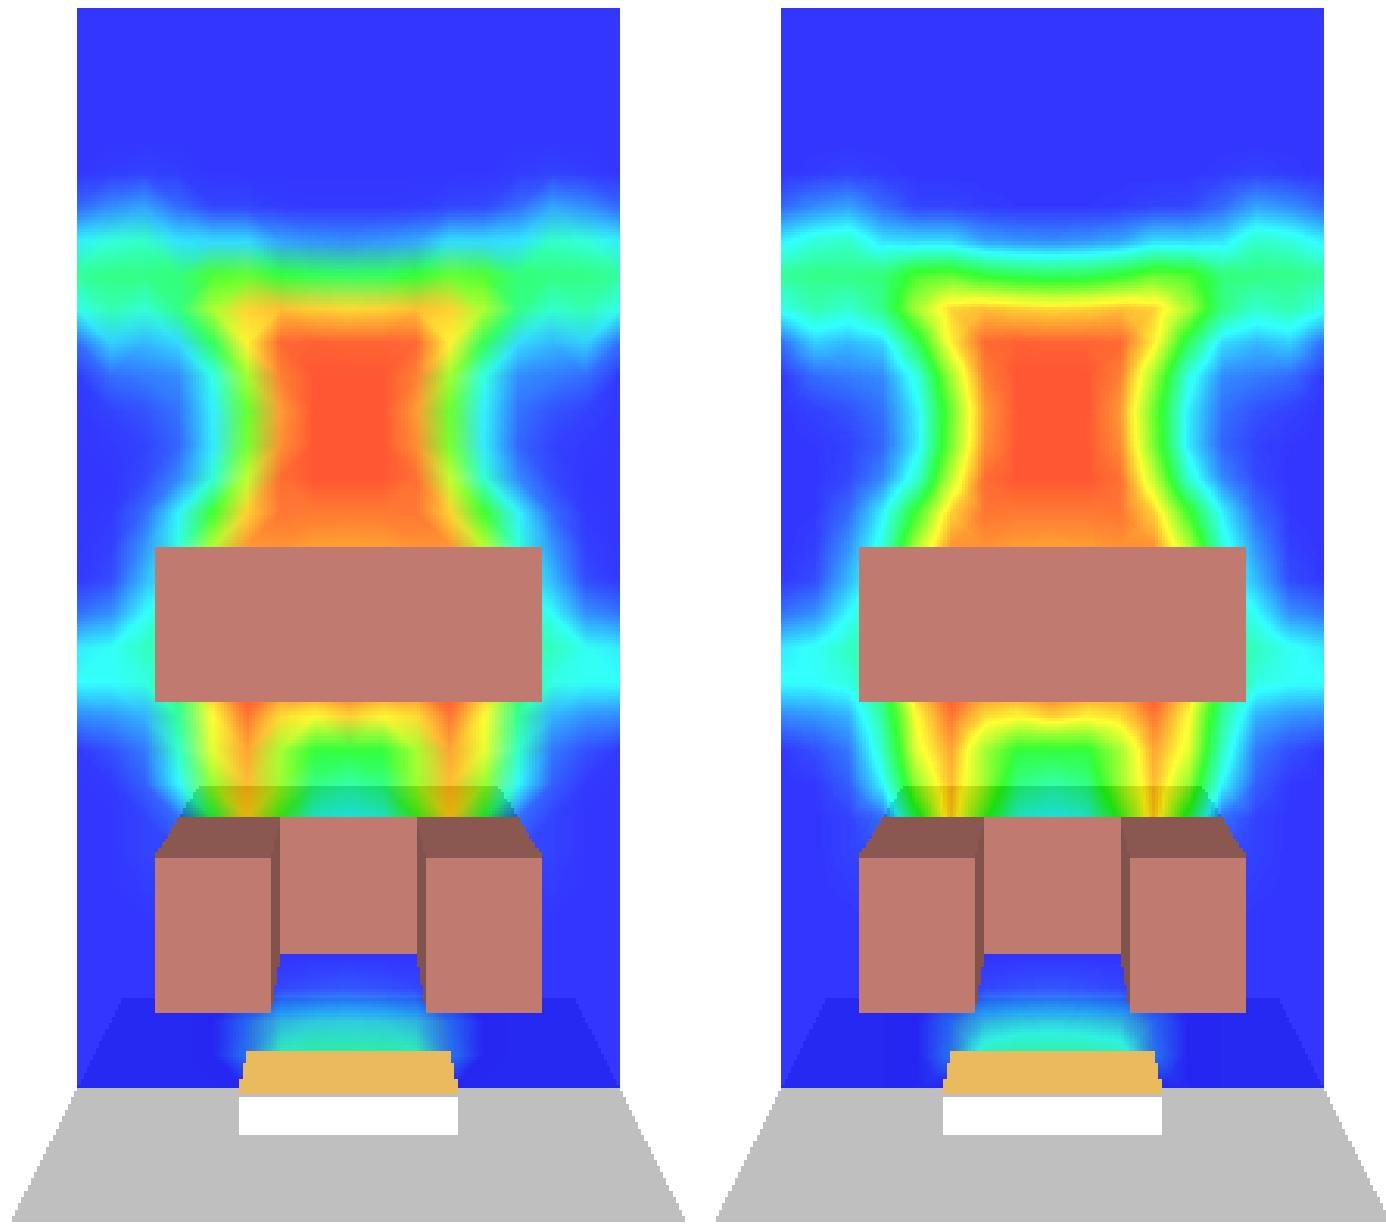

Figure 4.3: Slice file snapshots illustrating old and new method for coloring data.
**Data coloring** Smokeview uses a 1D texture map for coloring data occurring in slice, boundary and PLOT3D files. This is illustrated in Figure 4.3. The colors are now crisper and sharper, more accurately representing the underlying data. This is most noticeable when selecting the colorbar with the mouse. As before this causes a portion of the colorbar to turn black and the corresponding region in the scene to also turn black. Now the black color is accurate to the pixel so this feature could be used to highlight regions of interest. The improved accuracy is a result of the way color interpolations are performed. Colors are interpolated within the colorbar using a 1D texture map. Color interpolations with the former method occurred within the color cube.